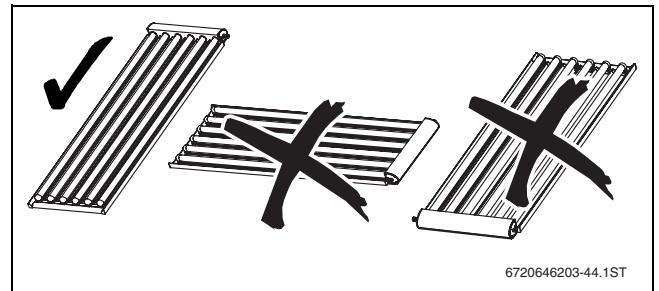

Fig. 17 Permissible installation orientation
- Always install collectors with their header at the top (→ Fig. 17).